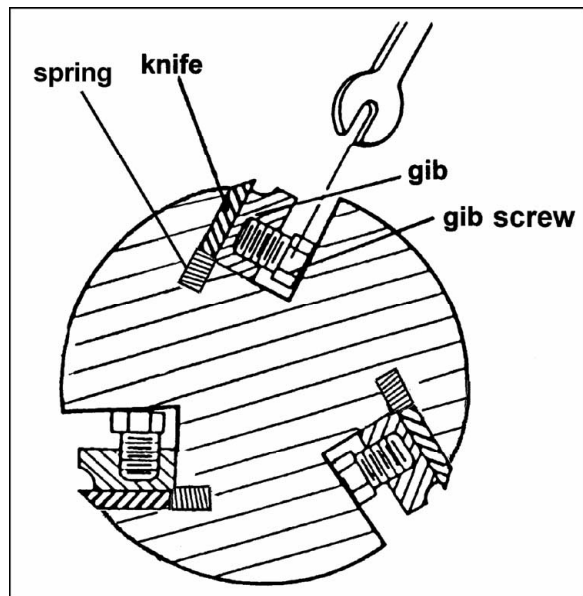

Figure 15
3. Remove the old knives by loosening gib screws with an 8mm wrench, and allowing the springs to push the knife upward. Remove knife and gib. See Figure 15.
4. Clean the gib and the knife slot. Sandwich new knife and gib together and drop into slot. Make sure the knife is oriented properly as shown in Figure 15.